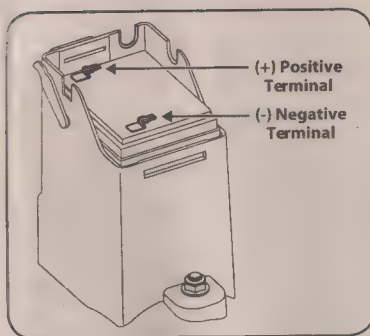

Figure 4-8
3. Replace with new battery. Connect the positive lead (red) to the positive side of the battery pack, then connect the negative lead (black) to the negative side. See Figure 4-8.